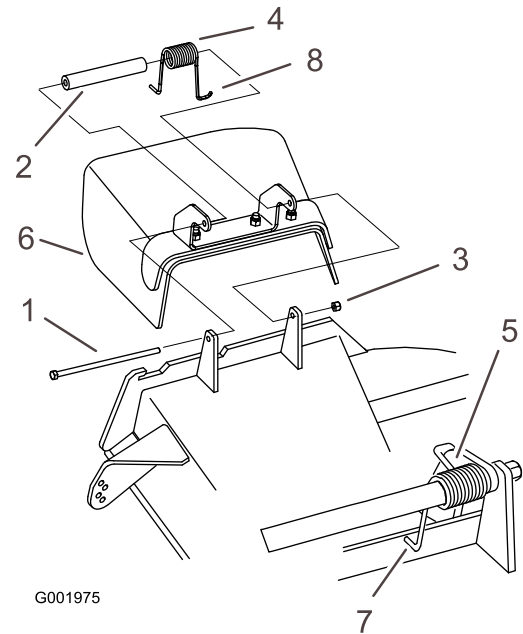

Figure 60
1. Remove the locknut, bolt, spring and spacer holding the deflector to the pivot brackets (Figure 60). Remove the damaged or worn grass deflector.
Note: Make sure one **J** end of the spring is installed behind the deck edge before installing the bolt as shown in Figure 60.
3. Install the bolt and nut. Place one **J** hook end of the spring around the grass deflector (Figure 60).